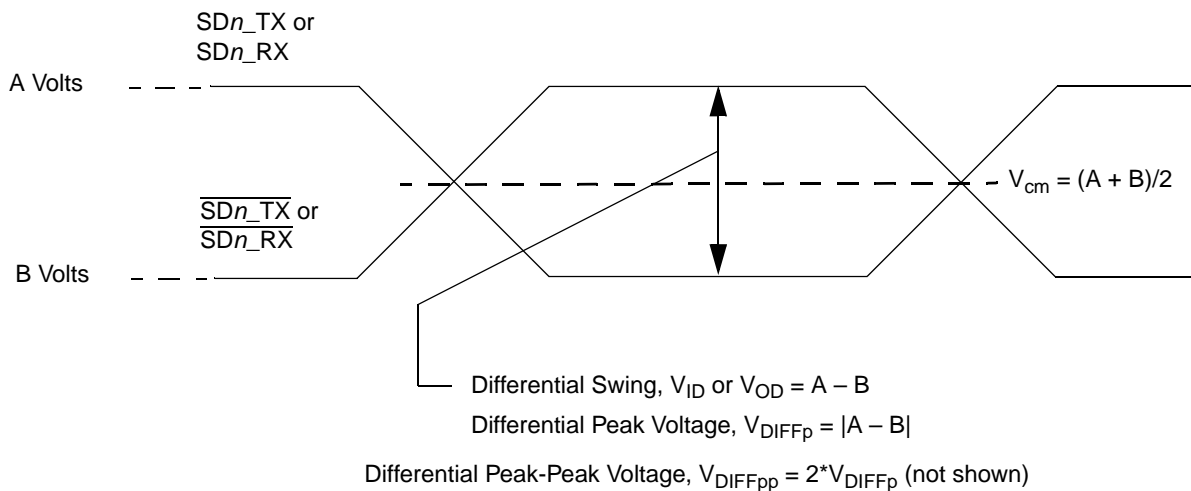

Figure 43. Differential Voltage Definitions for Transmitter or Receiver
Figure 43 shows how the signals are defined. For illustration purposes, only one SerDes lane is used for description. Figure 43 shows the waveform for either a transmitter output (SDn_TX and $\overline{SDn_TX}$) or a receiver input (SDn_RX and $\overline{SDn_RX}$). Each signal swings between A Volts and B Volts where $A > B$.
6. **Differential Waveform:** The differential waveform is constructed by subtracting the inverting signal ($\overline{SDn_TX}$, for example) from the non-inverting signal (SDn_TX , for example) within a differential pair. There is only one signal trace curve in a differential waveform. The voltage represented in the differential waveform is not referenced to ground. Refer to Figure 43 as an example for differential waveform.